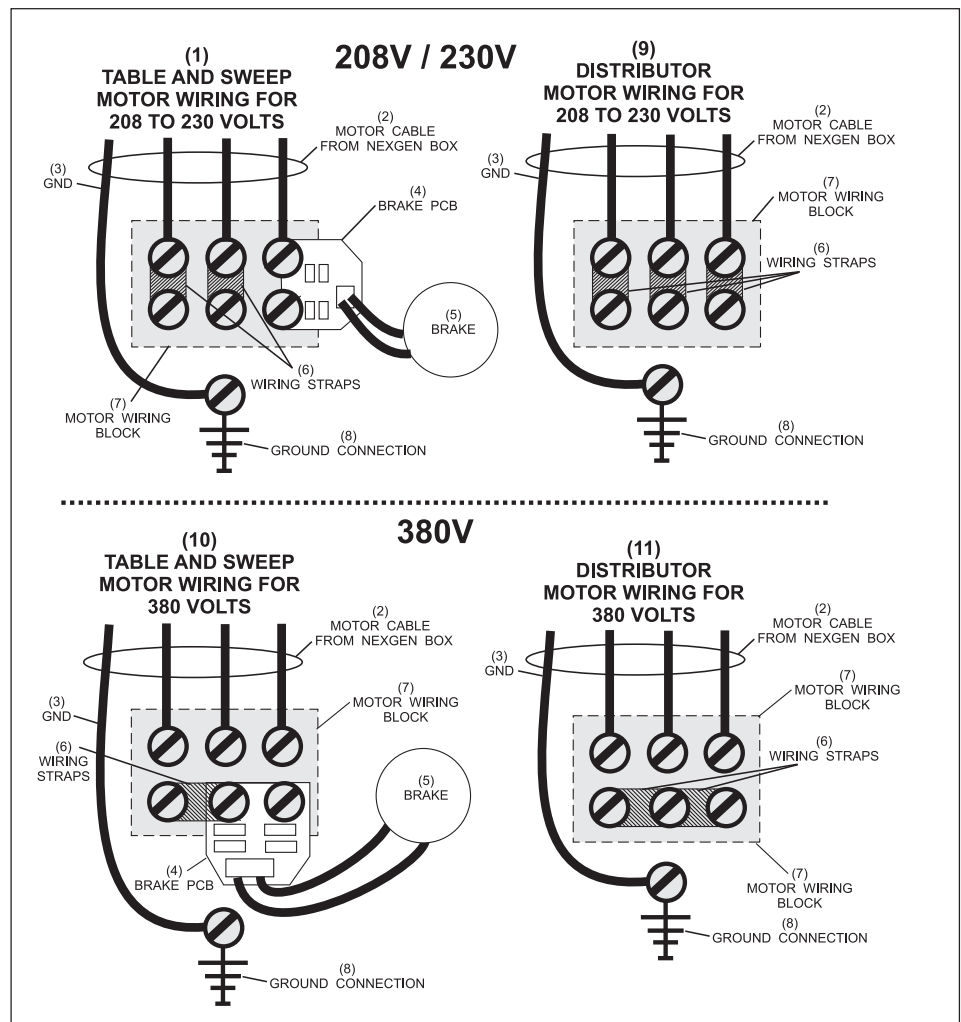

Figure 8-12. Table, Sweep and Distributor Motor Wiring.
6. Install the motor onto the pinsetter and wire it for proper voltage. Verify that the wiring straps and Brake PCB (if applicable) are properly attached. Refer to Figures 8-12 and 8-13.